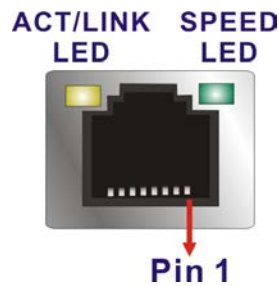

Figure 3-36: LAN Connector
- CN Pinouts:** See **Figure 3-36** and **Table 3-32**